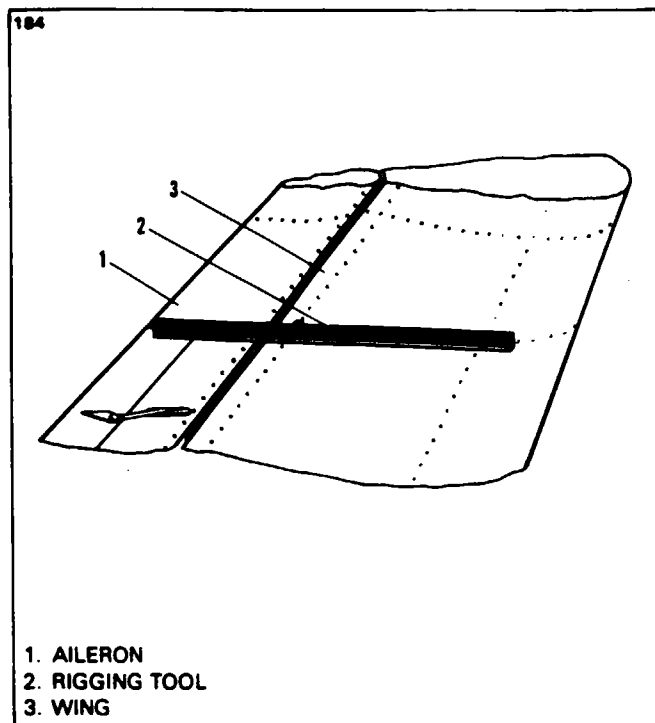

Figure 27-9. Installation of Aileron Rigging Tool
- A. Place a modified straightedge, as shown in Figure 27-9 against the underside of the wing, next to and outboard of the row of rivets at station 189.00 with the aft end of the tool even with the trailing edge of the aileron. (This tool may be fabricated from dimensions given in Chapter 95.) Do not place tool over rivets.